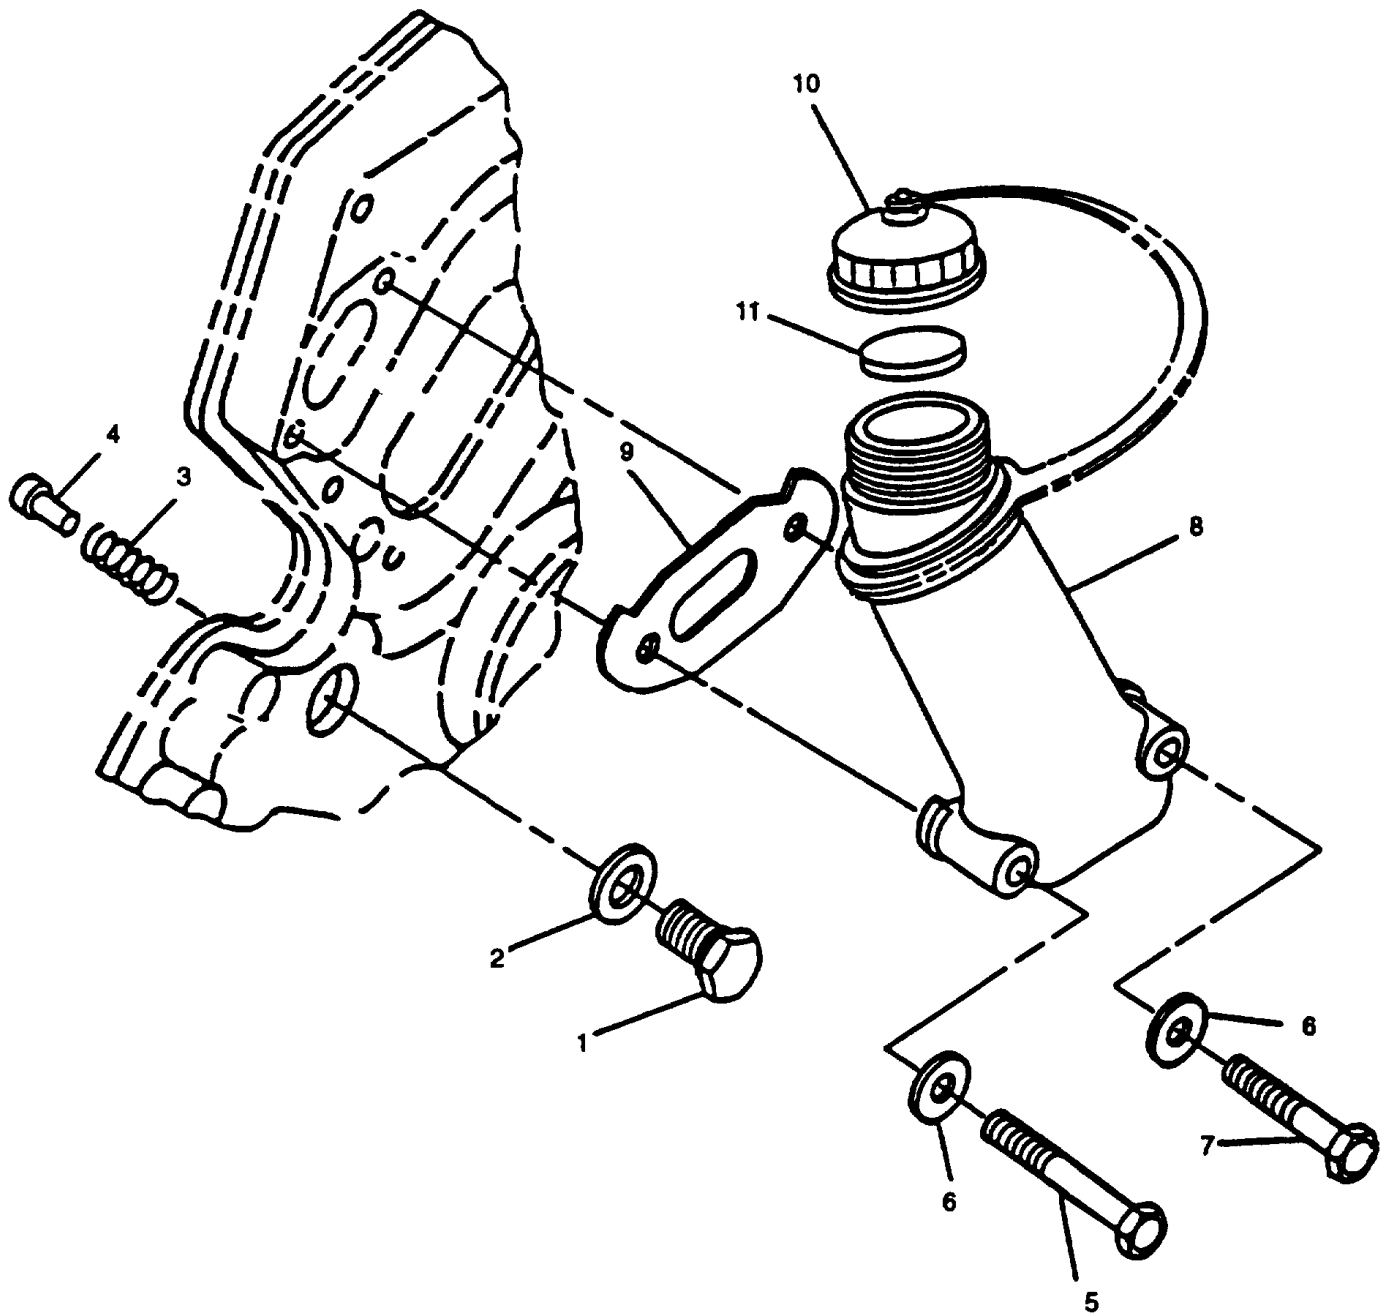

FIGURE 3-32. Oil Pressure Regulating Valve and Oil Filler Assembly
Spring (3, FIGURE 3-32) is under pressure and can cause personal injury when plug (1) is removed.
- b. Remove oil pressure regulating valve plug (1) and washer (2).
- c. Remove oil pressure regulating valve poppet (4) and spring (3).
If engine is being repaired due to low oil pressure, replace spring (3, FIGURE 3-32). If due to high oil pressure, install an additional washer (2).
- b. Install oil pressure regulating valve poppet (4) and spring (3) in engine block.
- c. Install washer (2) and plug (1). Tighten plug to 70 ft-lbs (95 Nm).
- b. Remove two capscrews (5 and 7, FIGURE 3-32) and washers (6) securing filler neck (8) to engine block. Remove filler neck (8) and gasket (9); discard gasket.
- b. Inspect filler cap (10, FIGURE 3-32) and gasket (11) for damage. Replace as necessary.